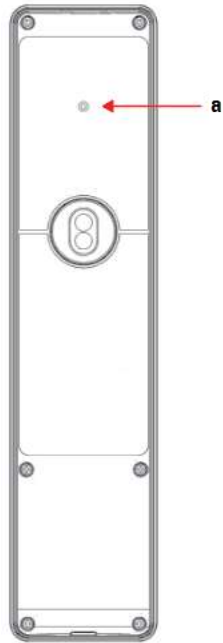

Figure 4 Admin button (a) on the back of Avigilon Video Reader Pro
3. Press Admin button (Figure 4 on the next page) on the back of the Avigilon Video Intercom Reader Pro.
3. Press Admin button (Figure 4 on the next page) on back of the Avigilon Video Intercom Reader Pro.